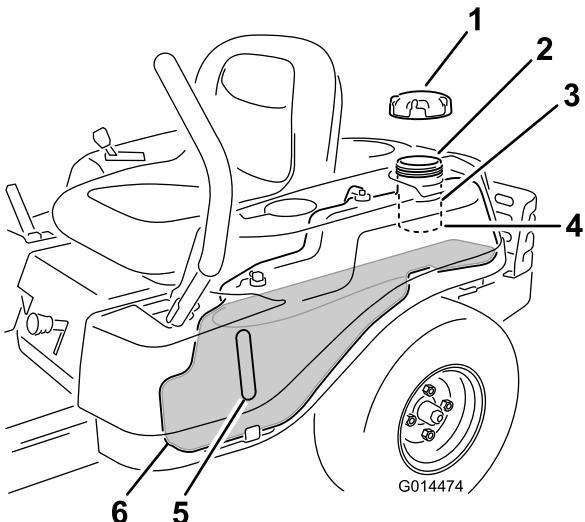

Figure 9
Note: You can use the fuel window to verify the presence of gasoline before filling the tank (Figure 9).
- Slowly add regular, unleaded gasoline until the fuel reaches the base of the filler neck (Figure 9).